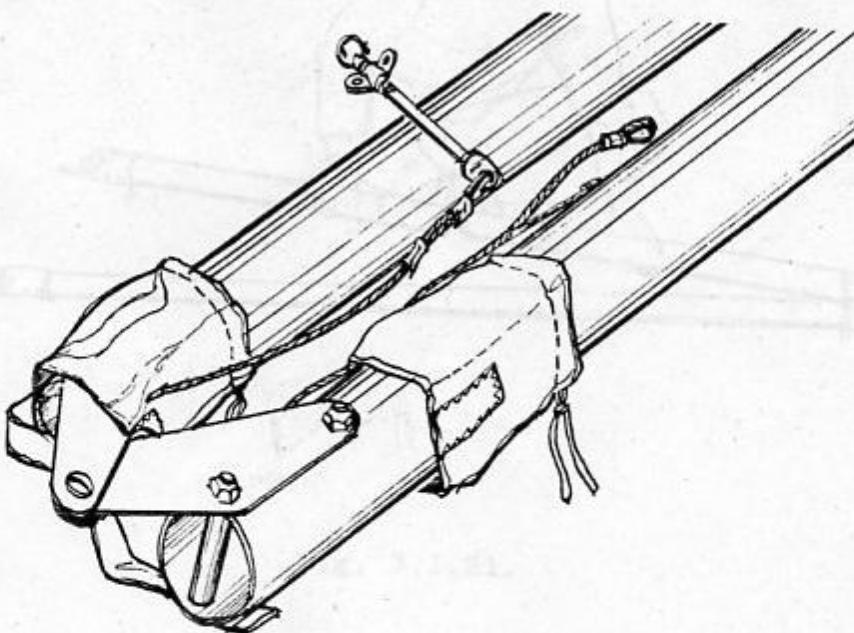

Fig. 3.1.19.
13. Set up the crossbar: attach the N2 tubes to the N1 tube of the crossbar, keeping to the following marking: L-left, R-right. Fix the junction with the button springs (Fig. 3.1.19, 3.1.20, 3.1.21).